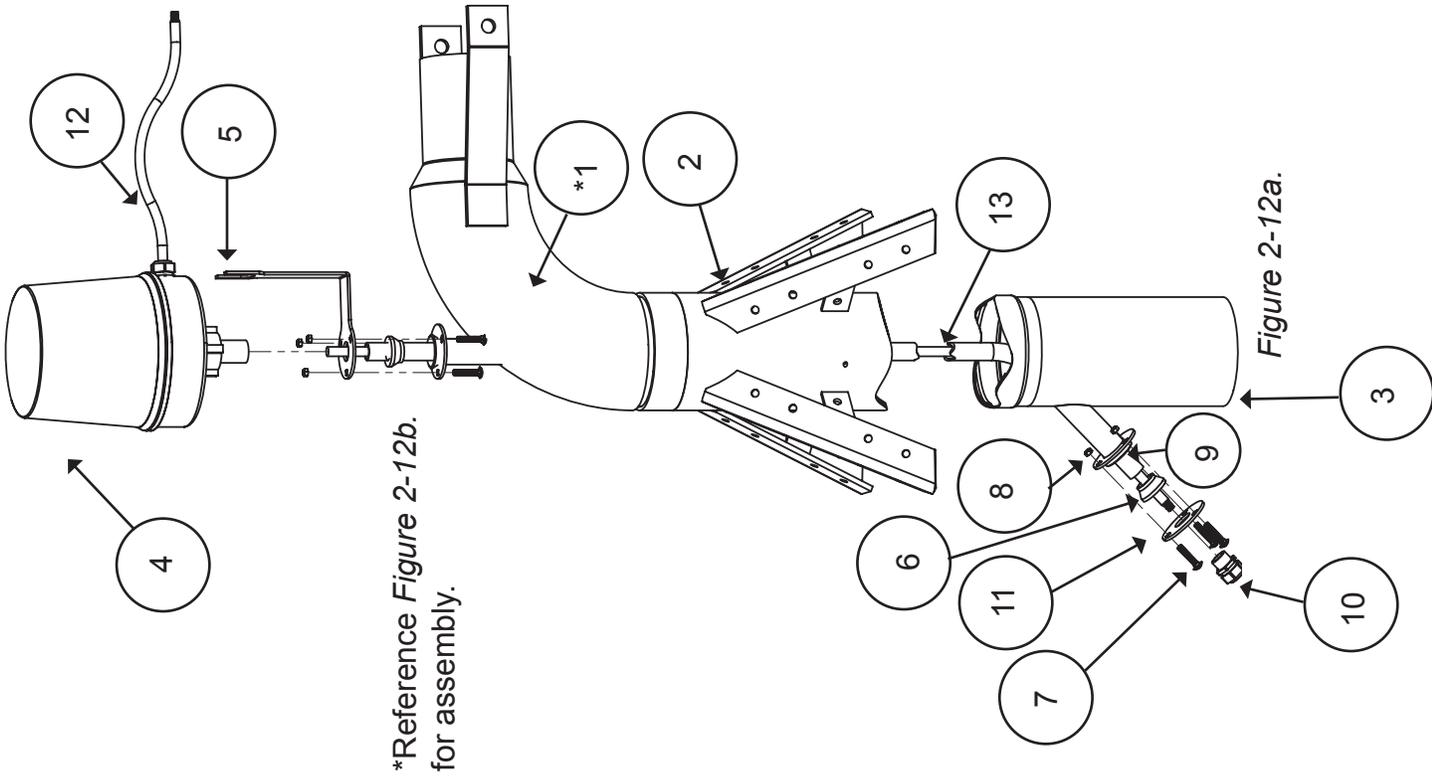

Figure 2-12a.
**Note:** Make sure stop flange is aligned with upper elbow as shown in Figure 2-12a.